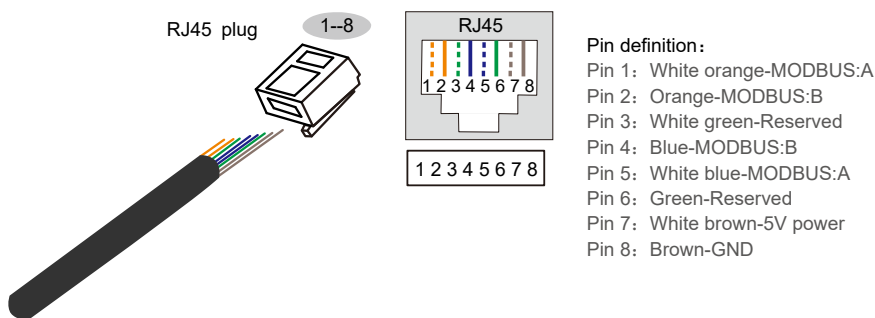

Figure2-14 Pin definition of MODBUS
1. MODBUS port is used for MODBUS serial port communication, which is to communicate with upper computer. MODBUS port adopts RJ45 plug. The pin definition as shown in Figure2-14.